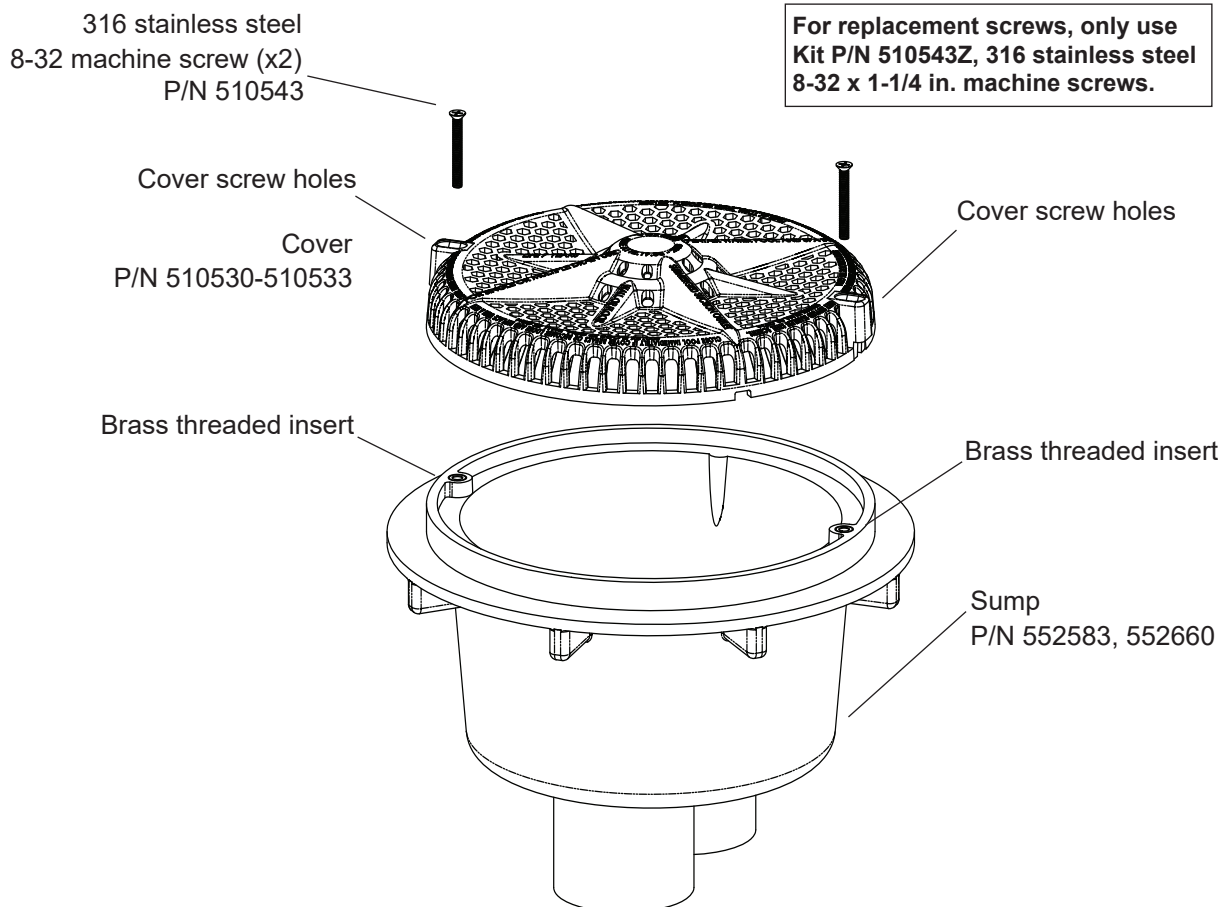

Figure 1
3. Mount the drain cover on top of the sump (see Figure 1).
5. Install the two (2) 316 stainless steel 8-32 machine screws (provided) into the holes in the top of the cover. Using a No. 2 Philips head screwdriver, tighten each retaining screw to a torque value of 10.00 (minimum) to 15.0 (maximum) in/lbs to secure the cover. HAND START EACH SCREW. DO NOT OVER TIGHTEN THE SCREWS. DO NOT ASSEMBLE WITH POWER TOOLS.